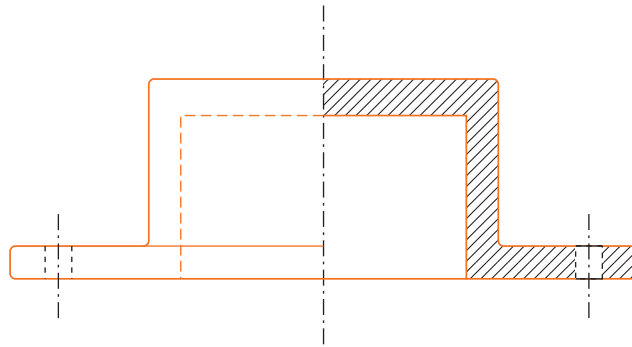

FIGURE 16.15
- Half-section views are used for symmetrical objects. For such objects, it is customary to draw half of the object in sectional view and the other half as exterior view. The main advantage of half-section views is that they show the interior and exterior of the object using one view. An example of a half-section view is shown in Figure 16.15.